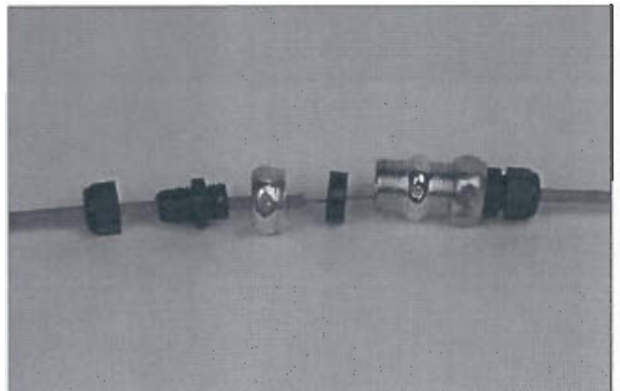

FIGURE 98
8. Push wire rope completely through remaining section of flexible conduit. See Figure 98.